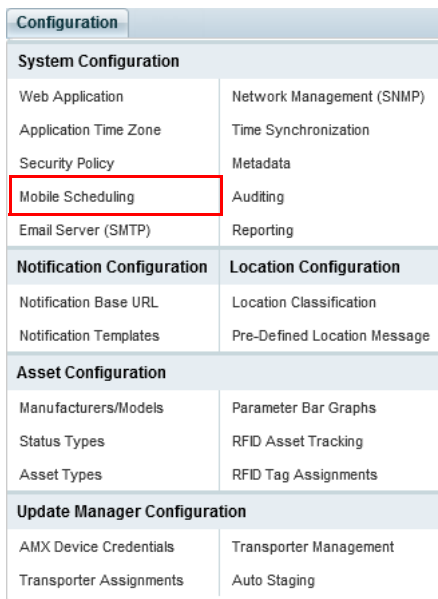

FIG. 355 Configuration Menu (System Scheduling > Mobile Scheduling)
2. Select **System Configuration > Mobile Scheduling** (FIG. 355):